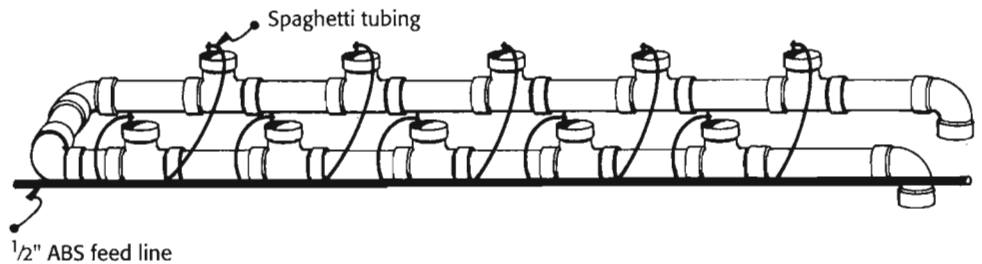

Figure 4. U-shaped unit with feed line and spaghetti feed tubes
2. Mark the feed line at intervals that align with the grow ports in the unit. These locations are where the barb connectors (and then the spaghetti feed tubes) will be inserted. It is not critical to measure the intervals exactly—the flexibility of the spaghetti feed tubes allows for a great deal of tolerance (fig. 4).